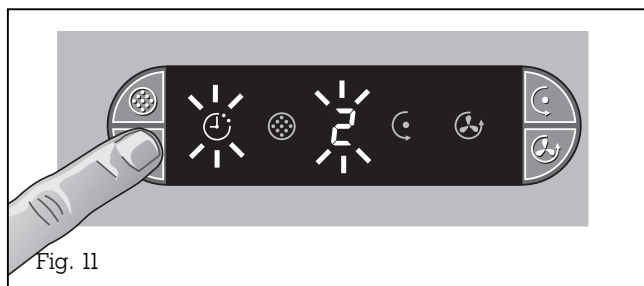

Fig. 11
- The ☀ (After-running) symbol and ventilation level 2 light up on the display (Fig. 11).